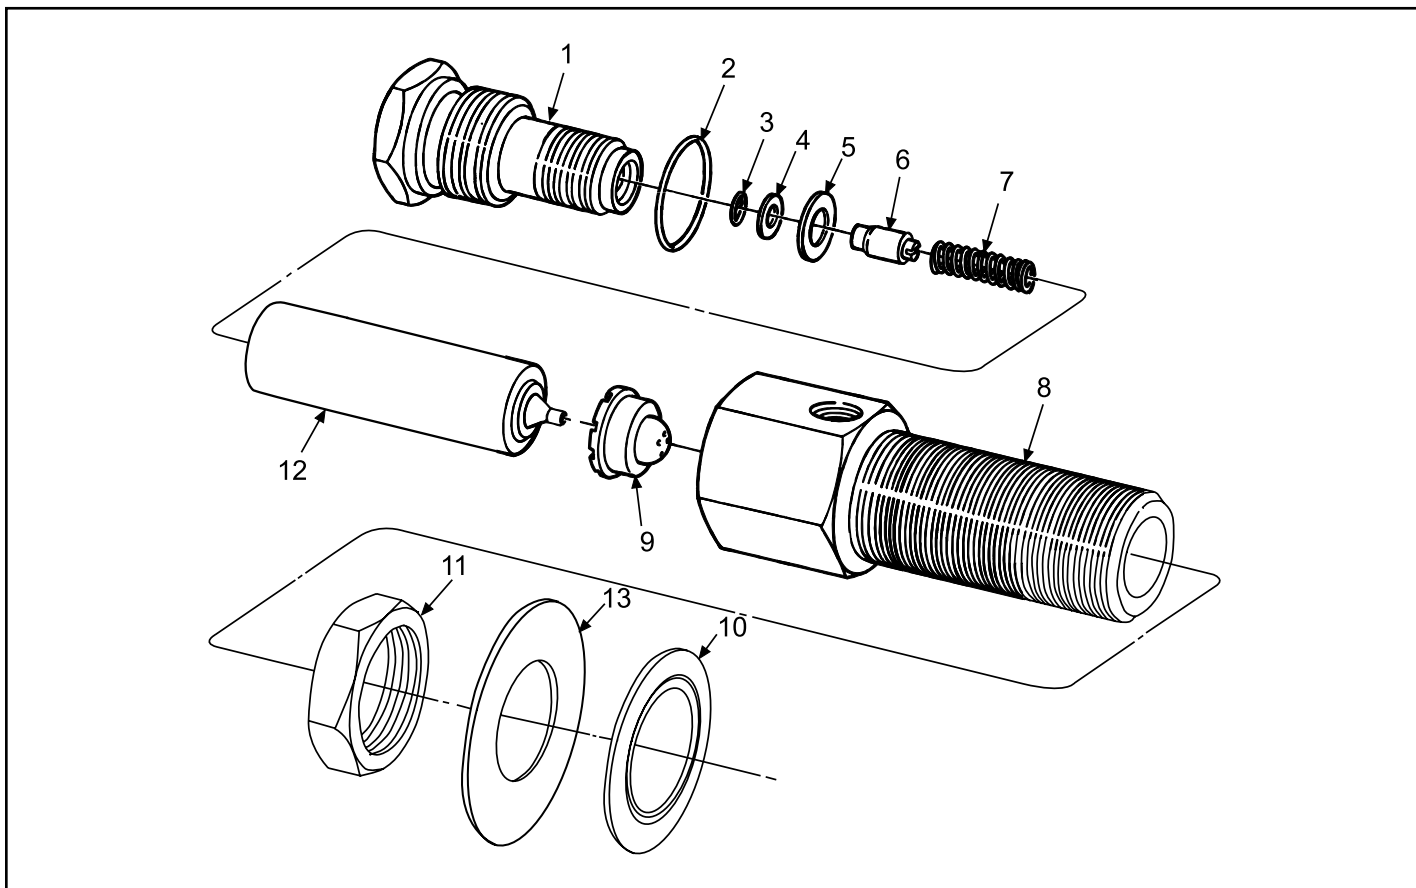

Figure 5-1. Spray Nozzle Parts Identification
5.2.1 General: The SG-1 spray nozzle can be disassembled and individual parts can be ordered. Disassembly and assembly procedure are provided in paragraphs 5.2.2 and 5.2.3. Figure 5-1 located after the assembly procedure, shows an exploded view of the spray nozzle with the associated part numbers.
- d. Loosen locknut (11, Figure 5-1) and remove spray nozzle assembly from machining head lubrication port. Remove and discard thread seal (10) from nozzle body (8).
- e. Remove end plug (1) with attached nozzle head (12) from nozzle body (8).
- f. Remove nozzle head (12) from end plug (1), to remove o-ring (3), o-ring retainer (4), gasket (5), piston (6) and spring (7). Discard o-ring and gasket.
- g. Remove and discard o-ring (2) from end plug (1).
- h. Remove air cap (9) from nozzle body (8).
- a. Install new o-ring (2, Figure 5-1) onto end plug (1).
- b. Insert new o-ring (3), o-ring retainer (4) and piston (6) into end plug (1).
- c. Insert spring (7) and new gasket (5) into nozzle head (12).
TABLE 5-4 SPRAY NOZZLE (FIGURE 5-1) PARTS LIST